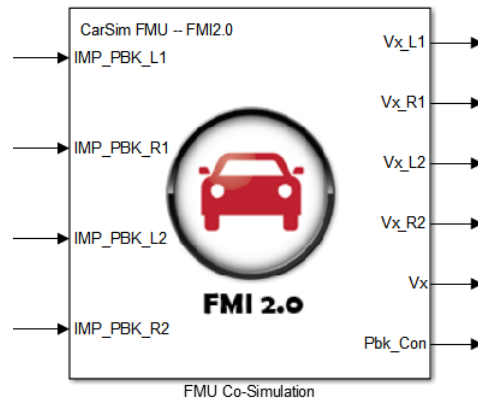

Figure 17. Multiple ports, each for a single I/O channel.
2. The **Flat** option always provides multiple ports, each with a single value for Import or Export data (Figure 17).